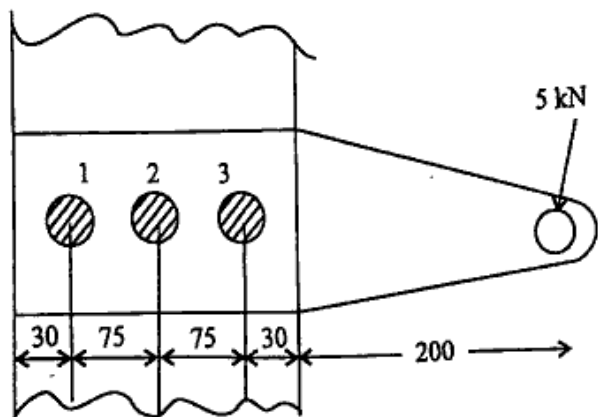

Fig. 4(b)
- (b) A steel plate subjected to a force of 5 kN and fixed to a channel by means of three identical bolts is shown in Fig. 4(b). The bolts are made from plain carbon steel 45C8 ( $S_{yt} = 380 \text{ N/mm}^2$ ) and the factor of safety is 3. Specify the size of bolts. [7]
- (c) The following data is given for the bracket illustrated in Fig. 4(c).